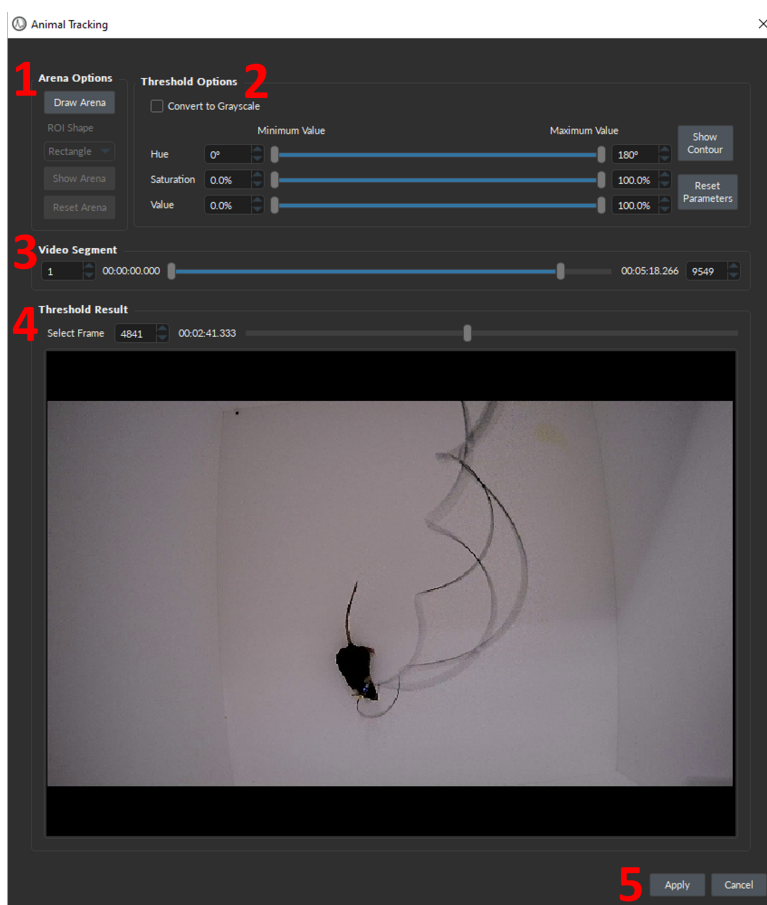
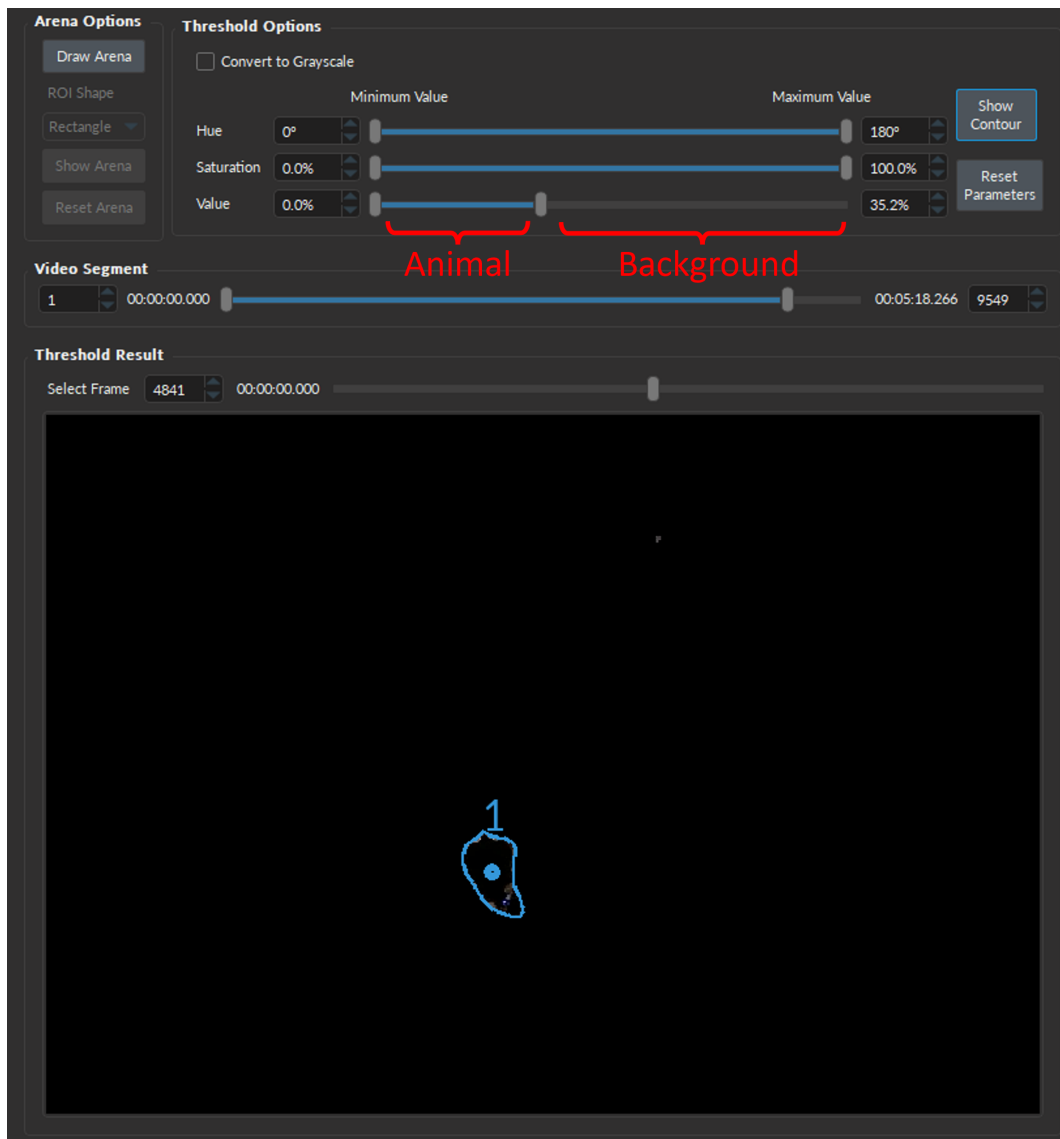
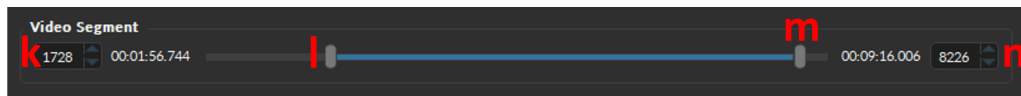
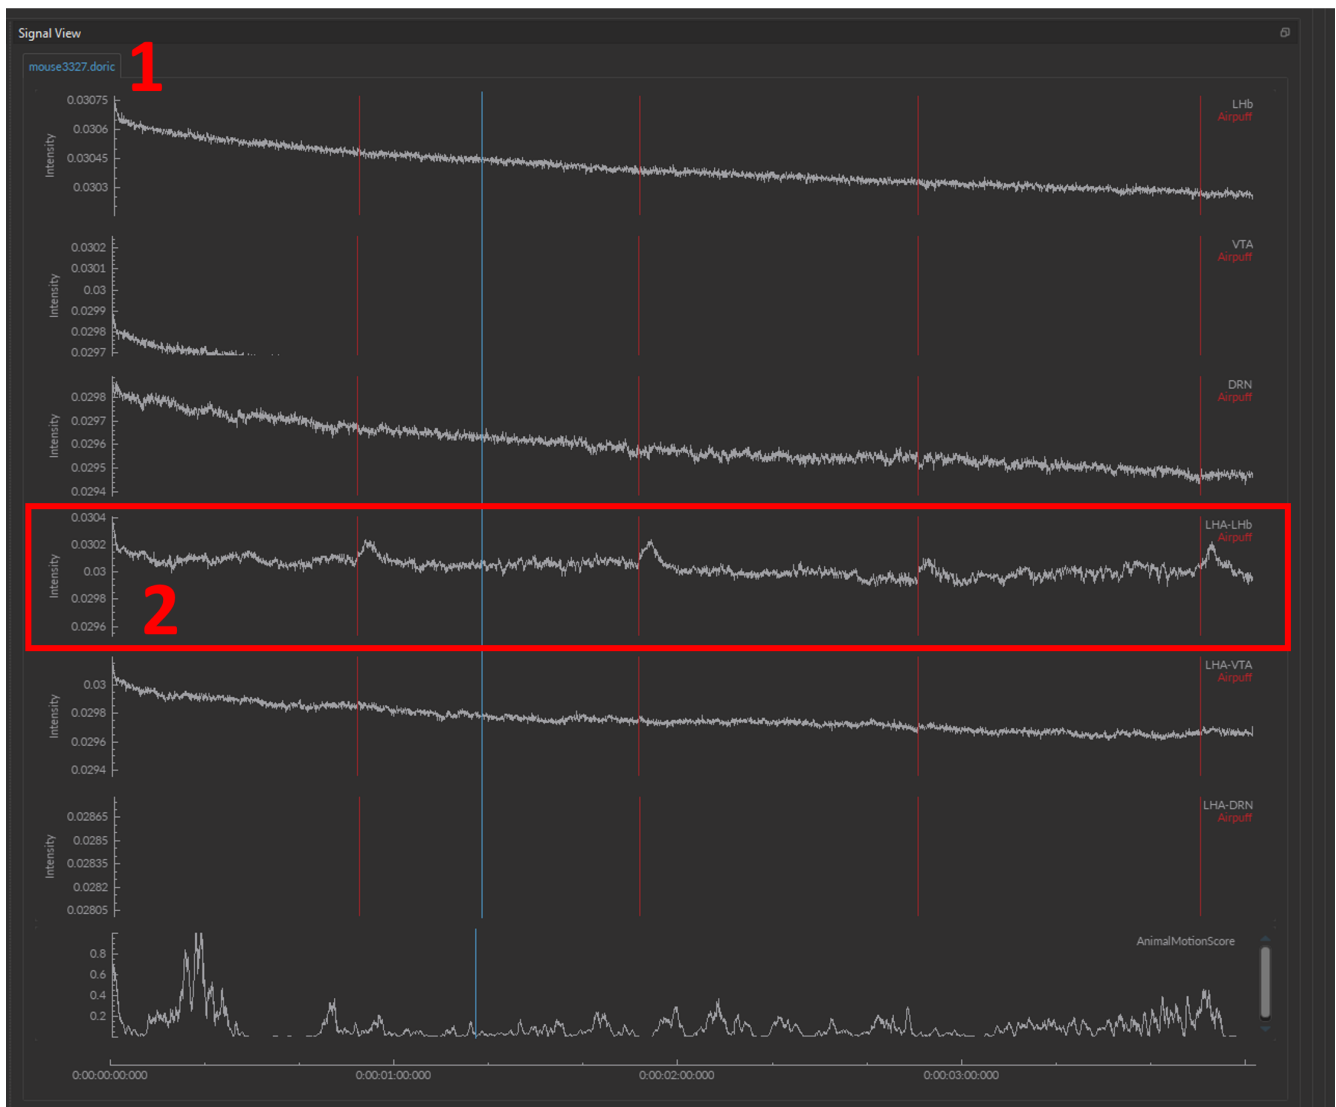

Figure 11.7: Animal Tracking window
Figure 11.10: Animal Tracking window, Threshold Options - Show Contour
Figure 11.11: *Animal Tracking window, Video Segment*
Figure 11.14: Signal View
1. The **Arena Options** (Fig. 11.7, 1) set the area within the video where the algorithm will be applied. If no arena is defined, the entire image will be set at the arena. To define the arena area use the following parameters:
2. The **Threshold Options** (Fig. 11.7, 2) allows users to set the range values (either **Hue**, **Saturation** or **Value**) that correspond to the moving animal in order to differentiate it from the background (Fig. 11.10). *** There should be high contrast between the animal and the background arena for best results.***
- e) The **Convert to Grayscale** checkbox (Fig. 11.10, e) will convert color pixels to a binary, black & white pixels with corresponding intensity level. This setting is ideal if the animal and background do not differ in color (e.g. black animal on white background, or white animal on a black background).
- f) The **Hue** (Fig. 11.10, f) sets an absolute color as threshold values. The hue is a number between 0 and 180 degrees, where red: 0-30°; yellow: 30-60°; green: 60-90°; cyan: 90-120°; blue: 120-150°; magenta: 150-180°. *Useful if using thermal camera*.
- g) The **Saturation** (Fig. 11.10, g) describes the intensity of the pixel. Saturation is a percentage ranging from 0% (grayscale) to 100% (pure color).
- h) The **Value** (Fig. 11.10, h) set the pixel value as threshold. The value is a percentage that ranges from 0% (black) to 100% (white).
- i) The **Show Contour** button (Fig. 11.10, i) will apply the minimum and maximum values of the **Hue, Saturation** and/or **Value** as a threshold to detect the animal within the still frame and display the result within the **Threshold Results** view. A blue outline will surround the detected animal and the small blue circle will be computed as the center at the shape.
- j) The **Reset Parameters** button (Fig. 11.10, j) will erase the contour displayed in the **Threshold Results** view and reset all the parameters within the entire **Animal Tracking** window to their default values.
3. The **Video Segment** sliding scale (Fig. 11.7, 3) is used to define a time window within the video where the **Animal Tracking** algorithm will be applied. **This feature is useful to test the parameters on very small chunks of the video at a time to verify if those parameters are satisfactory.** Users can define the time window using either by specifying a starting and ending frame (Fig. 11.11, k & n respectively) or by using the two sliding scale pointers (Fig. 11.11, l & m respectively).
4. The **Threshold Results** (Fig. 11.7, 4) view displays a still frame of the video where the user will define the arena and view the animal tracking contour. User can **Select Frame** from the video footage (with the text box or using the sliding scale) to test the parameter at multiple time points within the video.
5. The **Apply** button (Fig. 11.7, 5) will use the parameters set within the **Animal Tracking** window to track the animal within the segment of the video and calculate the animal's speed. The Output will be displayed at the bottom of the **Signal View** as **Animal Speed** graph (Fig. 11.14).
3. The **Video Segment** sliding scale (Fig. 11.7, 3) is used to define a time window within the video where the **Animal Tracking** algorithm will be applied. **This feature is useful to test the parameters on small video increments at a time to verify whether those parameters are satisfactory.** Users can define the time window using either by specifying a starting and ending frame or by using the two sliding scale pointers.
The **Signal View** (Fig. 11.14) displays the raw signal data from .doric files, in addition to keypress events. When either **Motion Score** or **Animal Tracking** measurements are taken, these will be displayed at the bottom of the signal view.